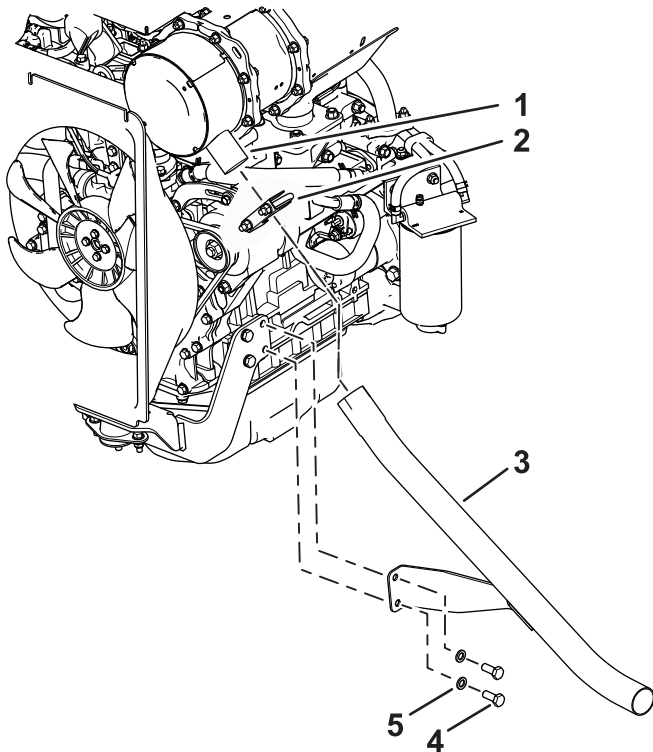

Figure 2
2. Loosen the clamp at the muffler (Figure 2).
3. Remove the engine bolts and washers from the existing exhaust pipe support (Figure 2) and remove the exhaust pipe.